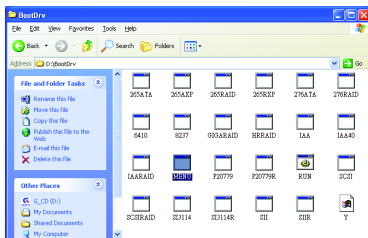

Fig.1
**Step 2:** Go to My Computer and right-click the CD-ROM icon (This procedure assumes Drive D) and select Open. Then you will see folders and files contained in the driver CD. Double-click the BootDrv folder icon and select **MENU.exe** (refer to Fig.1).